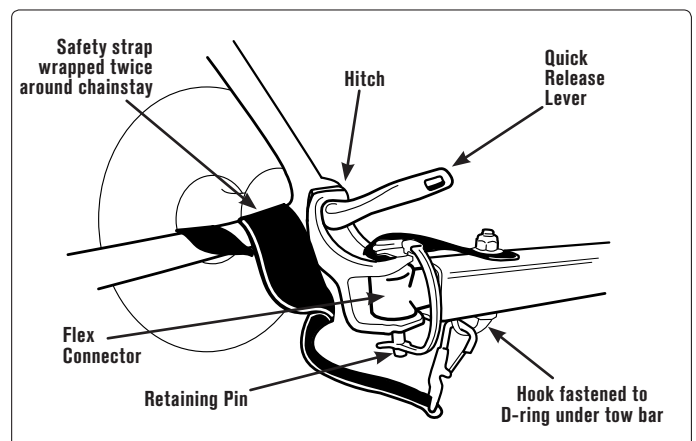

FIGURE 5
7. Wrap safety strap twice around inside of chain stay. Fasten hook to D-ring on underside of tow bar end. **FIGURE 5**